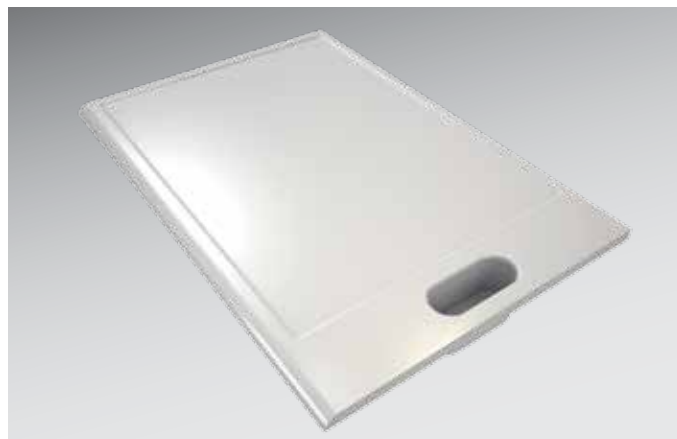

Figure 8
- by means of a broad raised edge, placed either laterally or at the back (see Figures 8 and 9). This raised edge can at the same time be used as a place for utensils or as a tap landing. In such case, the cup sink is mounted onto the fume-cupboard plate from below.